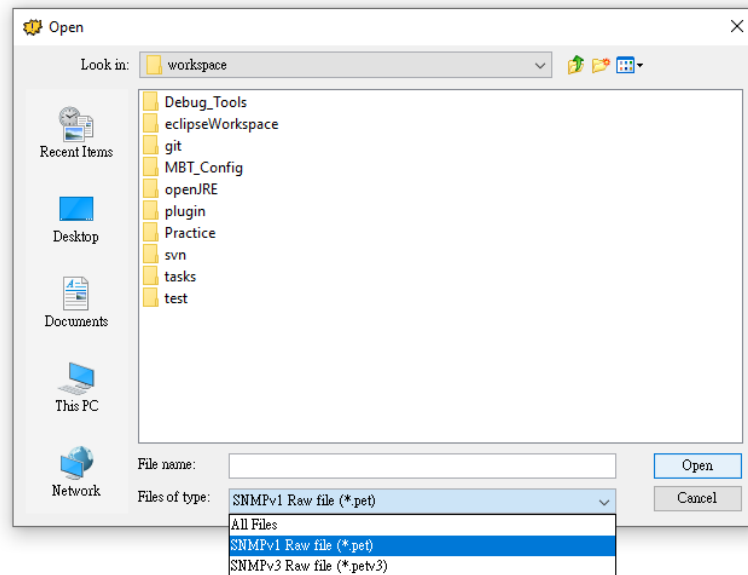

Figure 13-6
- **Load:** loads a saved SNMPv1 or v3 trap file into the Trap Receiver by selected file extension (see Figure 13-6).